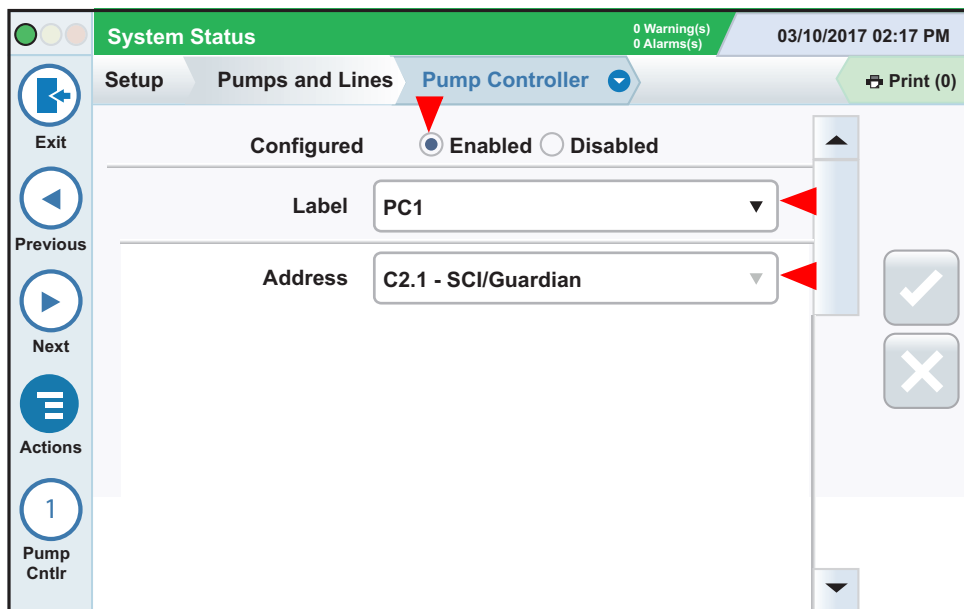

Figure 14. Selecting Pump Controller Screen
1. Navigate to the **Setup > Pumps and Lines > Pump Controller** screen (see Figure 14).
2. In the Label field enter a name for this Pump Controller (see Figure 14).
3. The Address field will contain all of the available pump controller types connected to IPC Comms serial port (e.g., MagEco [MagVFC], STP-SCI/Guardian, STP-SCII). Reference your record of each controller's assigned Secondary address (1 to 31), to select the desired controller from the drop-down list. For example, the Address field in Figure 14, C2.1 SCI – C2 = the IPC Comms serial port; 1 = Secondary address 1; and SCI/Guardian = the FE Petro Controller type assigned to that address (STP-SCI/Guardian).